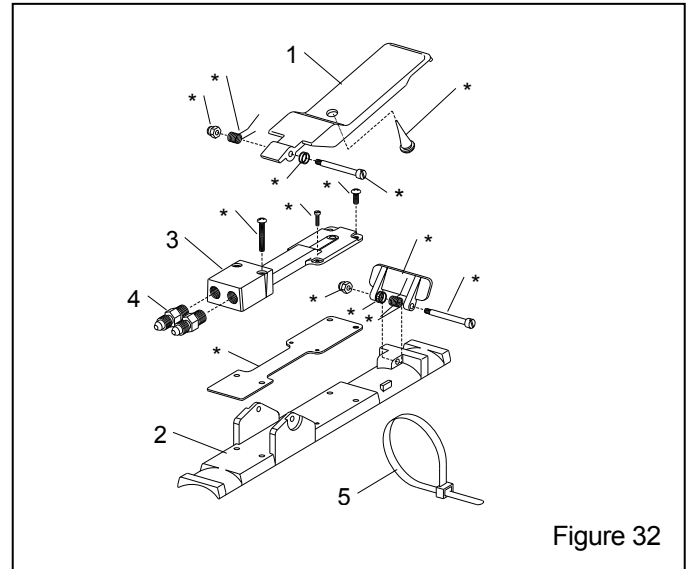

Figure 32
8.11 RLX Pneumatic Control Handle, Figure 32